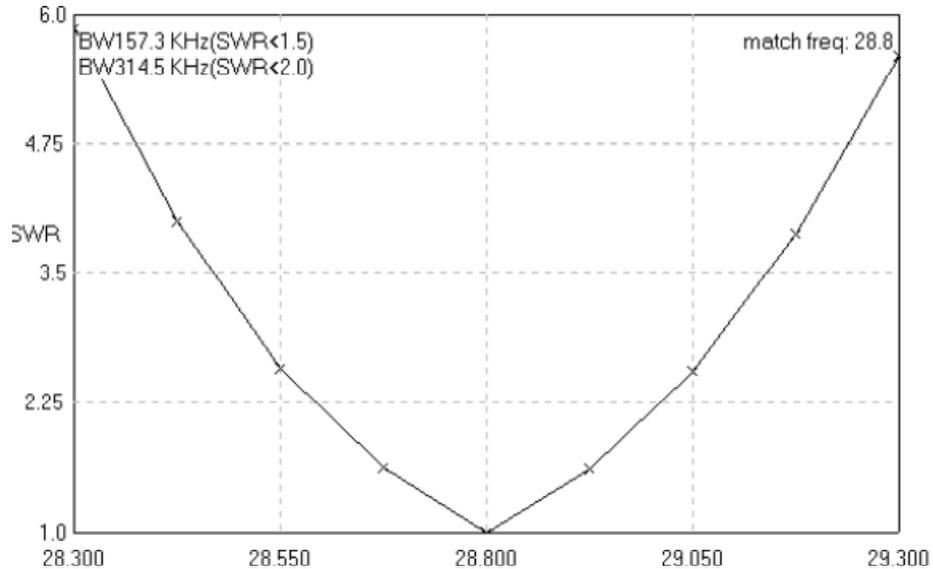

Figure 18 SWR at 50- Ohm coaxial connected through matching device to 'narrow' antenna
**Figure 17** shows input impedance of the antenna installed at window 210 cm wide. Theoretical input impedance for 'narrow' antenna is 12- Ohms, for 'wide' antenna- 26- Ohms. Practically measured impedance is higher on 8- 10 Ohms the theoretical due losses at neighbor subjects. **Figure 18** shows a SWR at 50- Ohm coaxial connected through matching device (see **Figure 14**) to 'narrow' antenna (see **Figure 12**).